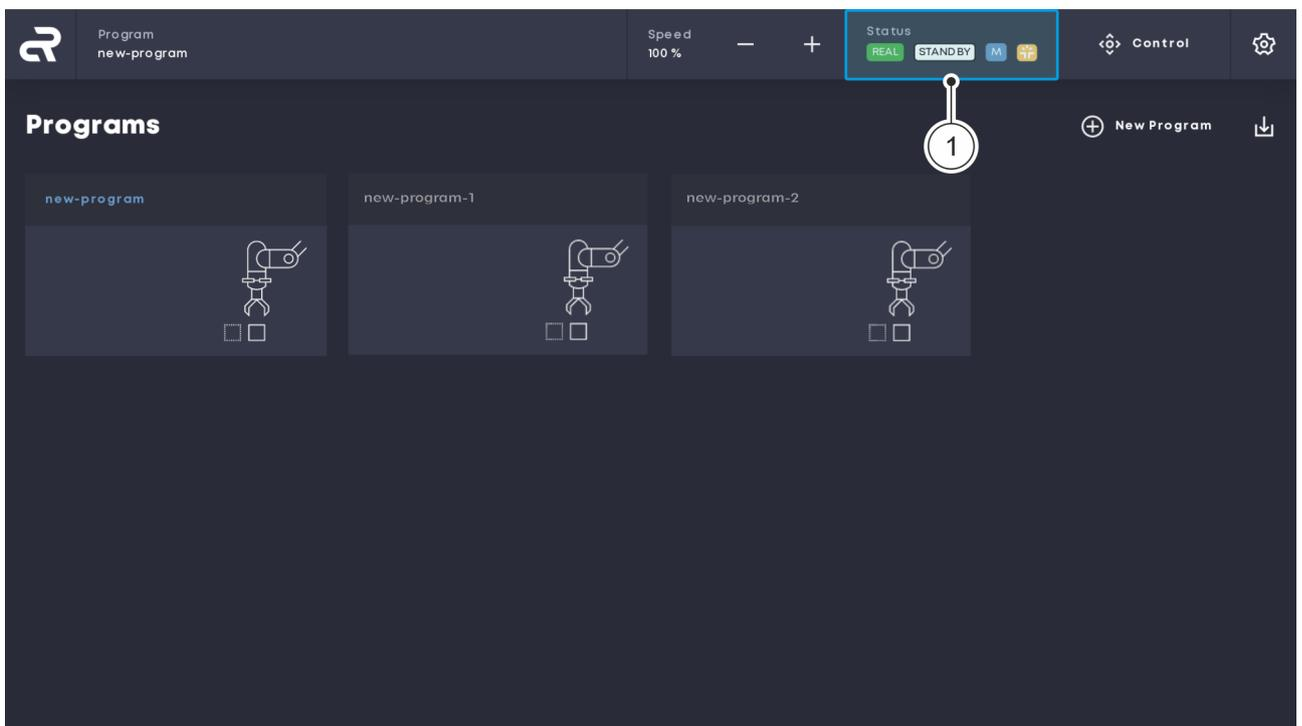

Fig. 60 Main screen
01. On the main screen, click the 'Status' button to open the 'Status' menu Fig. 60 / ①.